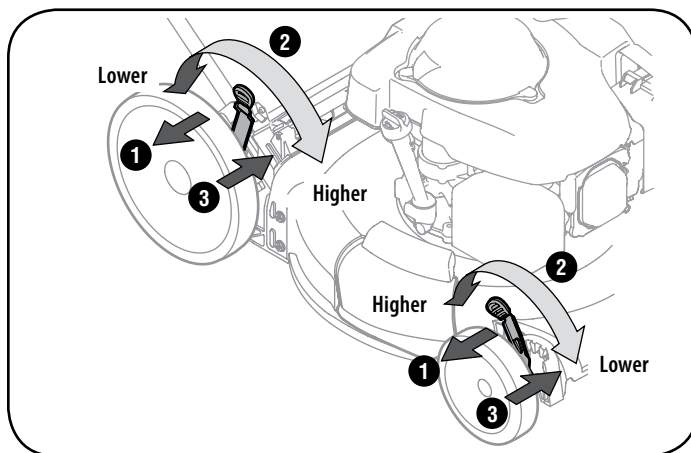

Figure 13
1. Pull the height adjustment lever outward towards wheel (unit will tend to fall when lever is moved outward). See Figure 13.
2. Move lever to desired position for a change in cutting height. See Figure 13.